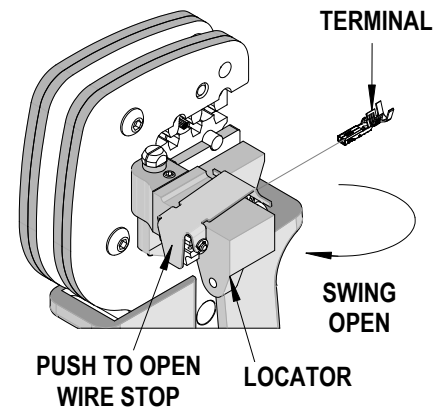

Figure 1
1. Swing the terminal locator away from the crimp tool. See Figure 1.